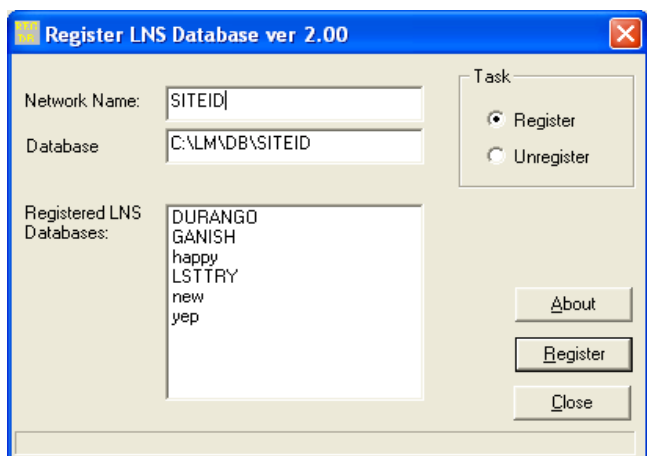

FIGURE 4-21. NETWORK DATABASE REGISTRATION WINDOW REGECHDB
- c. Select **Start → Programs → PowerGeneration → PCW → RegEchDB**. The dialog box shown in Figure 4-21 is displayed.